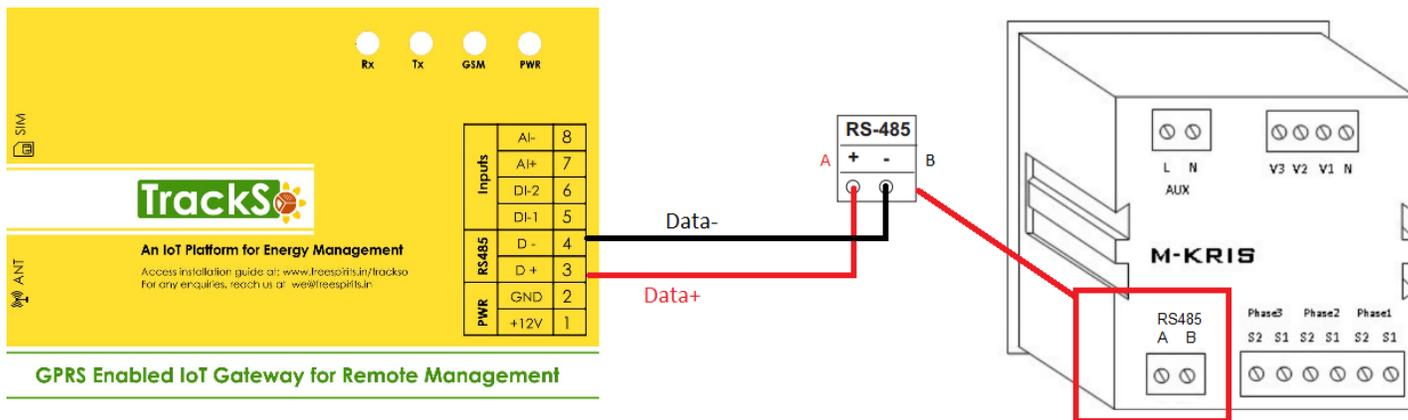

Figure M1 – Rear view of MKRIS METER
1. Please unscrew the RS485 terminal as shown in *Figure M1*.